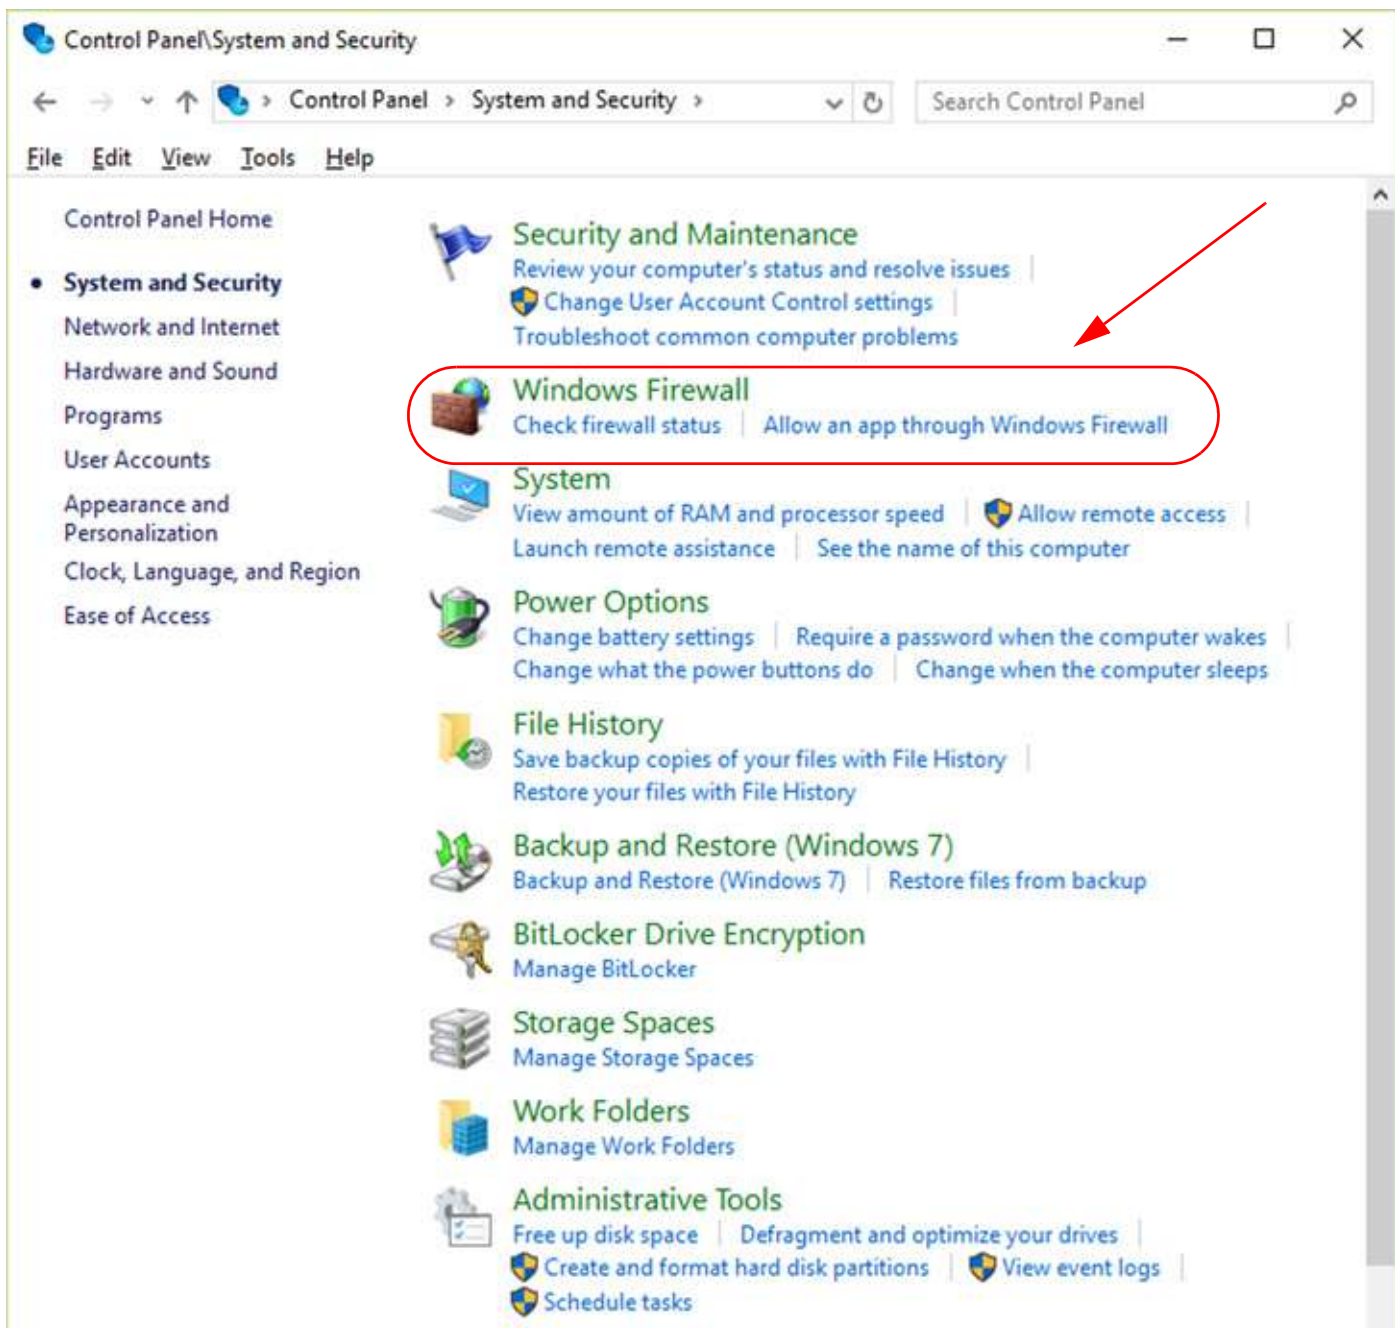

Figure 3.12: Windows 10: Allow an App Through Windows Firewall
3. From the Control Panel -> System and Security Screen, select "Allow an App through Windows Firewall". See Figure 3.12.